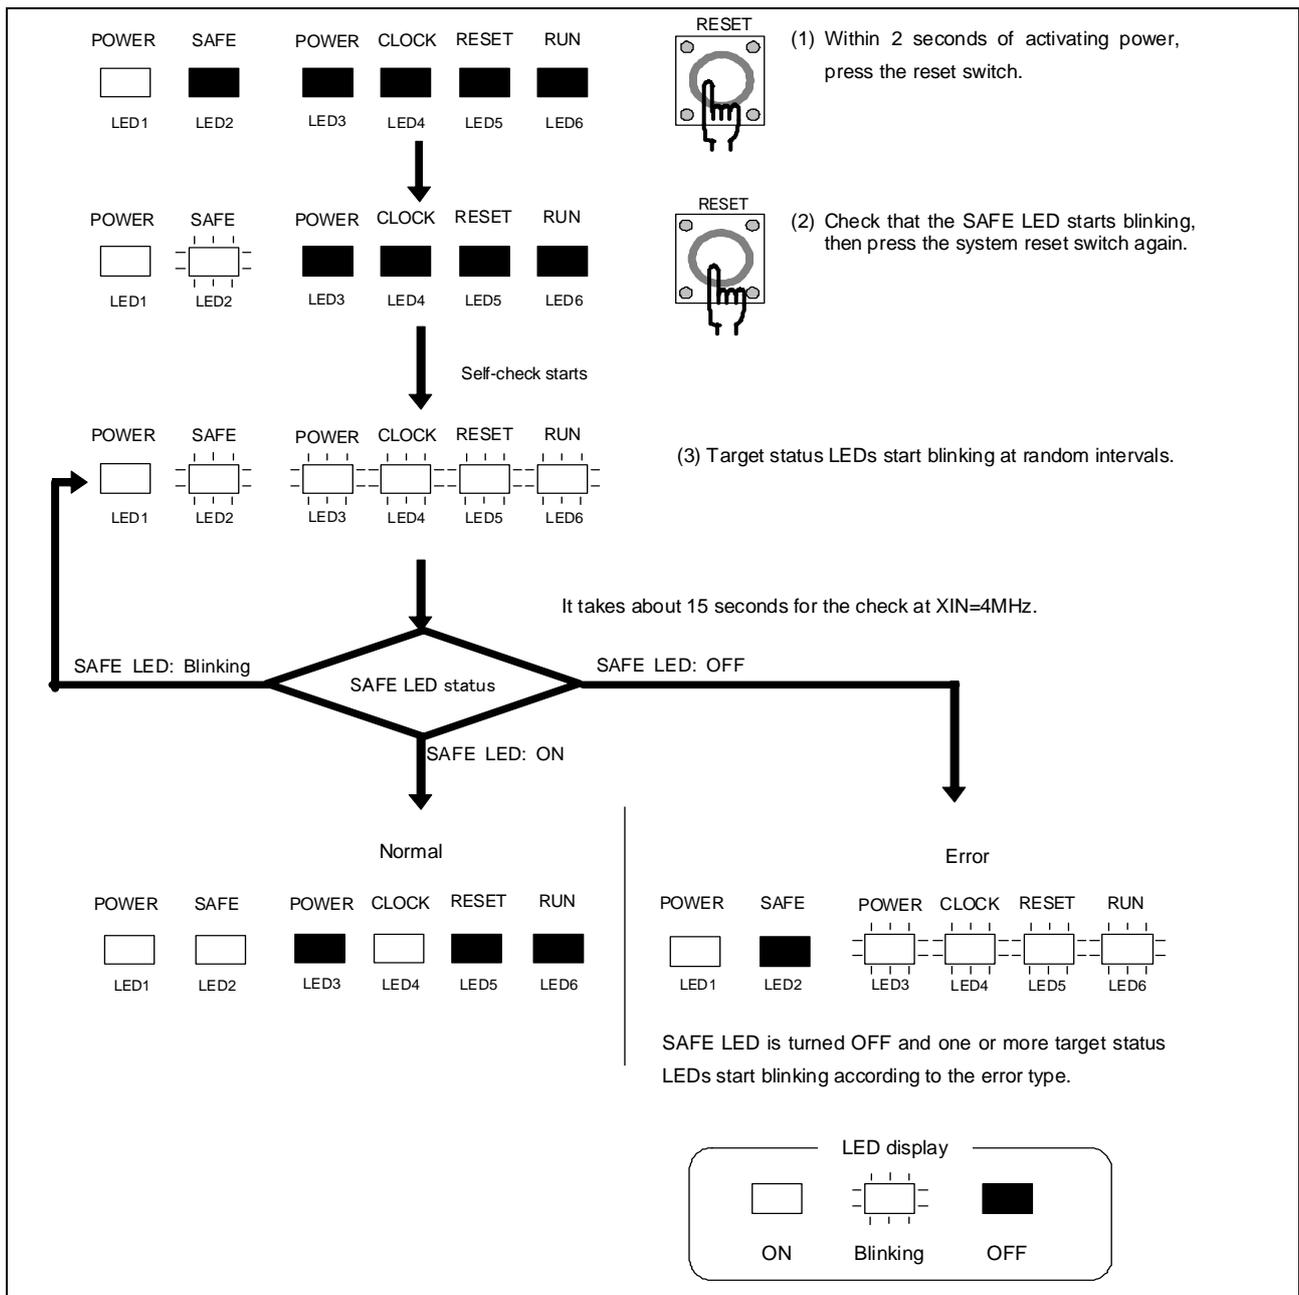

Figure 2.18 LED display while executing the self-check
To run the self-check of the emulator, do so as explained here below. While the self-check is in progress, the LEDs will change as shown in Figure 2.18.
- (1) If the user system is connected, disconnect it.
- (2) Within 2 seconds of activating power to the emulator, press the system reset switch on the emulator front panel.
- (3) Check the SAFE LED starts flashing and then press the system reset switch again.
- (4) The self-check will start. It takes about 15 seconds to complete the self-check.
- (5) If the normal result is displayed as shown in Figure 2.18, the self-check terminated normally.